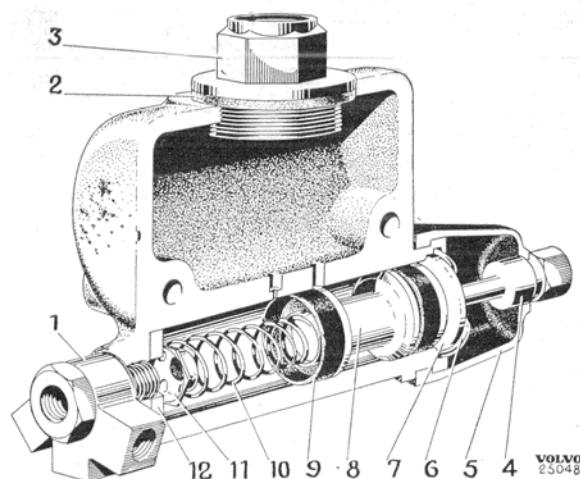

Fig. 21. Master cylinder.
2. Pull the rubber cover (5, Fig. 21) off the master cylinder and remove thrust-rod (4) with rubber cover.
3. Remove plunger (8), seal (9), return spring (10) with valve (11) and seal (12).
4. Remove the three-way union (1) with brake contact.
1. Place the seal (12, Fig. 21) and valve and return spring (10) in the cylinder.
2. Fit the rear seal on plunger (8). Dip plunger and seal (9) in brake fluid and press them into the cylinder. Fit the stop washer (7) in position and fit lock ring (6).